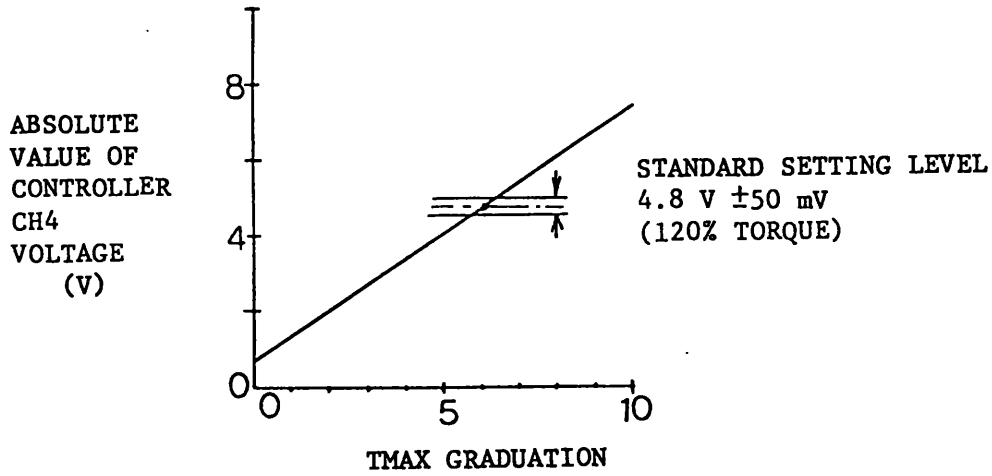

Fig. 22 TMAX Characteristic
**ADJUSTMENT PROCEDURE:** With the motor and the resolver disconnected, give the maximum speed command, and adjust the CH4 voltage as shown in Fig. 22.